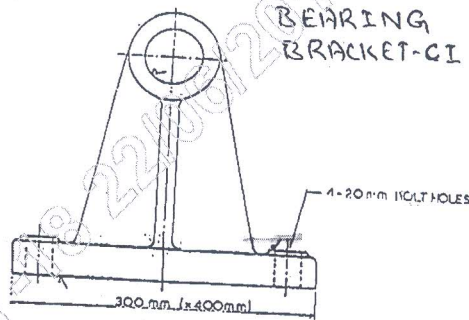

Fig. Q4 (a)
- 4 a. Fig. Q4 (a) shows a cast iron bearing bracket. With neat sketches, suggest suitable reduction of machined surface areas. (10 Marks)